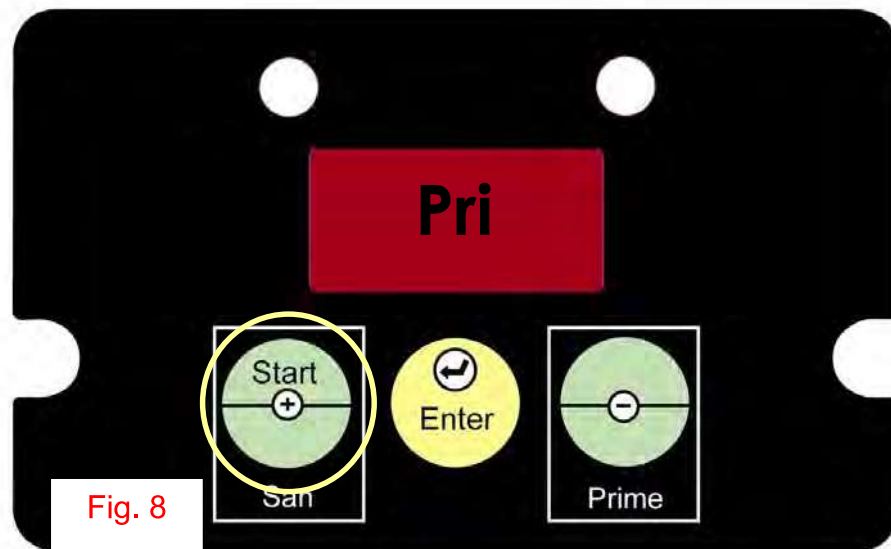

Fig. 8
- Press and hold Start (+) button until product flows from dispense head to prime pump as shown in **figure 8**.